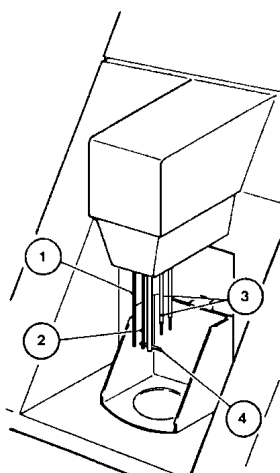

Figure 2.1 **Electrode Head**
1. Fit the two shorter, sleeved electrodes into the two rear positions on the underside of the electrode head, item 3, figure 2.1. Ensure both electrodes are pushed firmly into their sockets behind the protective rubber boots.
2. Insert the stirrer through the stirrer hole and push it firmly into its coupling, as shown in figure 2.1, item 4.
3. Insert the cathode (unsleeved short electrode) through the lefthand hole and push it firmly into its socket, as shown in figure 2.1, item 2.